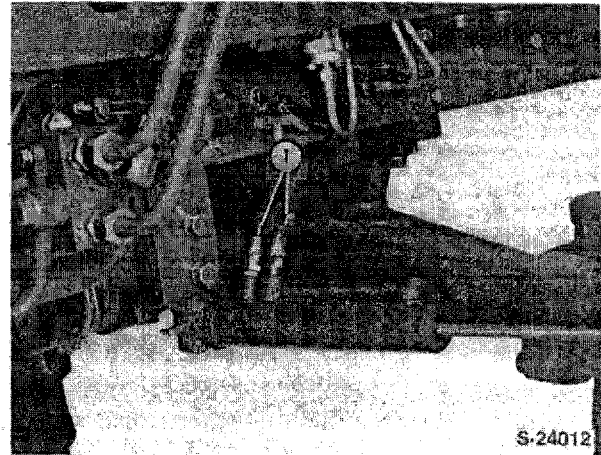

Figure 4
5. Disconnect the power steering cylinder hoses (1) and cap all openings, Figure 4.